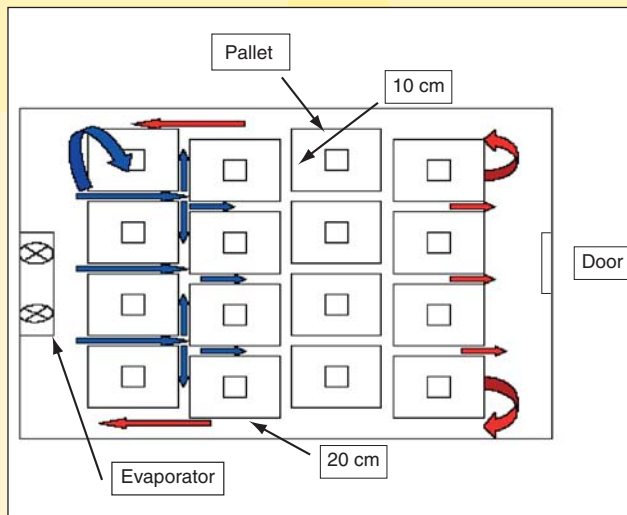

Figure 7. Flow of the cold and the warm air inside a storage room with a special stacking system useful for ripening bananas (overview).
- Stack the boxes in a way to permit the air to flow through and inside the box (Figures 7 and 8); OPEN the boxes and fold back the plastic bag